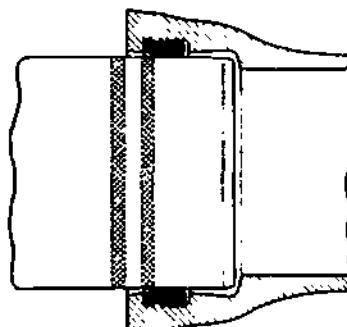

Figure 14-1. Cross-Sectional View of Tylon Joint
f) The pipe and fittings mostly in use are assembled with a compression joint, which the pipe manufacturer calls Tylon Joint, as illustrated in Figure 14-1.
Push the entering pipe until the first painted stripe disappears and the second stripe is about flush with the face of the hub. (See Figure 14-1 in this part of the manual.) The joint is now ready for testing.